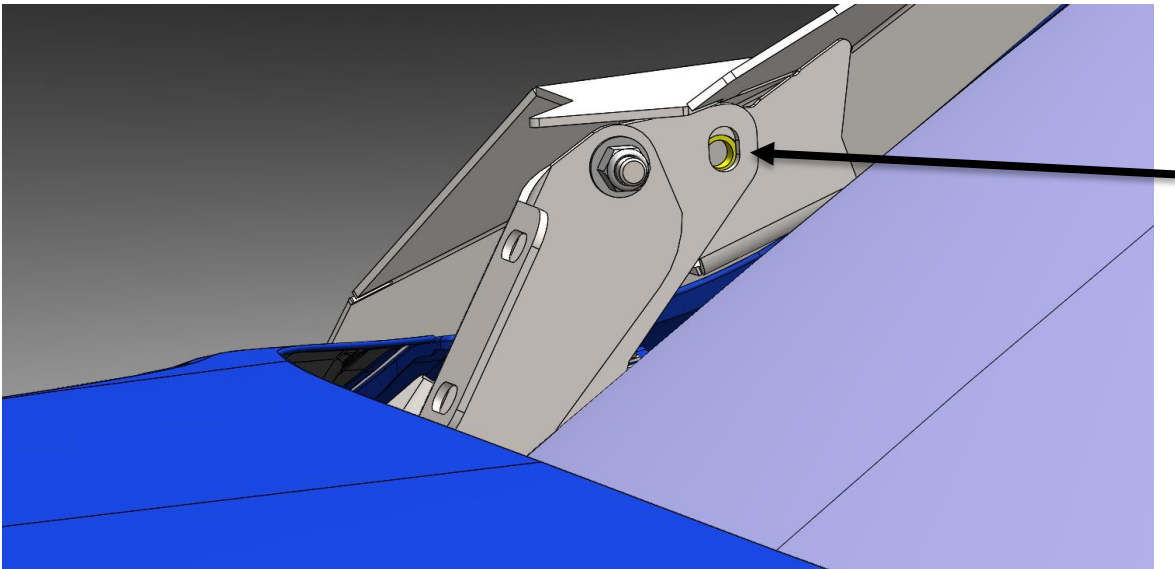

Fig 14
- a. With a friend on the other arm, lift the upper ViCowl assembly up over the hood and behind the radio antenna and slowly lower the arms into position. The arm mounting bracket rest to the outside of the lower hinge and lined up with the rear bolt hole as shown in **Fig 14**.
Note: the slot in the bracket is for ease of installation of the bolt only. The bolt should be seated at the bottom of the slot when fully tightened. Failure to do so could result in a smaller gap between the arm and cowl when installation is complete. Fig 14 shows the yellow projection nut at bottom of slot as it should be.